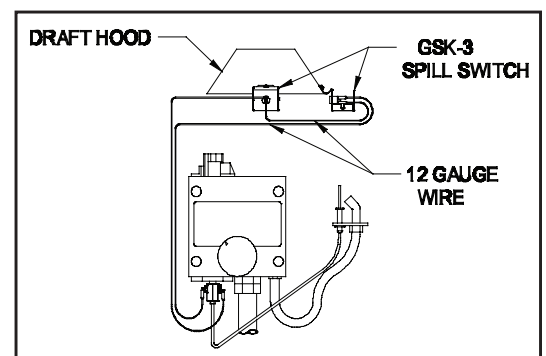

Figure 14
4. Connect the one terminal of each switch with 12 ga wire and then connect it to the thermocouple junction block. Next, connect the two remaining terminals together using a short length of 12 ga wire. (See Figure 14)